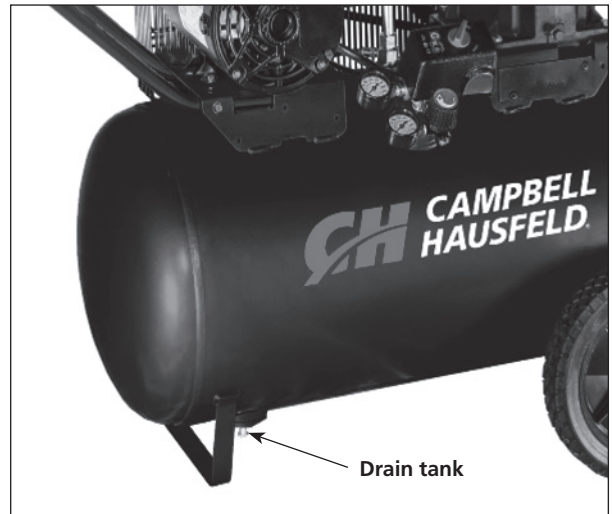

Figure 6
2. Open the bottom tank drain valve (see Figure 6).
Drain Tank (see Figure 6)	●